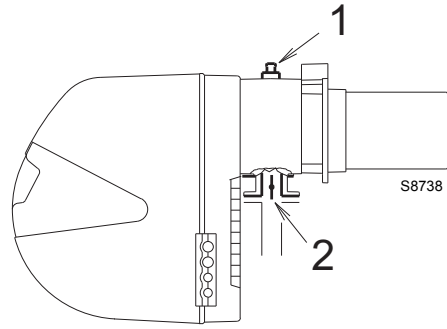

Fig. 22
Gas pressure measured at test point 1)(Fig. 22), with:
Pressure loss at gas butterfly valve 2)(Fig. 22) with maximum opening: 90°.
- subtract the combustion chamber pressure from the gas pressure measured at test point 1)(Fig. 22).
Gas pressure at test point 1)(Fig. 22) = 15.6 mbar
To calculate the required gas pressure at test point 1)(Fig. 22), set the maximum modulating output required from the burner operation:
- read, on the right (column 1), the pressure at the test point 1)(Fig. 22).
pressure required at test point 1)(Fig. 22).